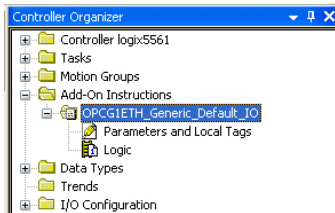

Figure 84: Generic Default IO Add-On Instruction
- 2) Right click on "Add-On Instructions" in the controller organizer view and select "Import Add-On Instruction". Browse and import the generic default I/O add-on instruction. Refer to Figure 84.